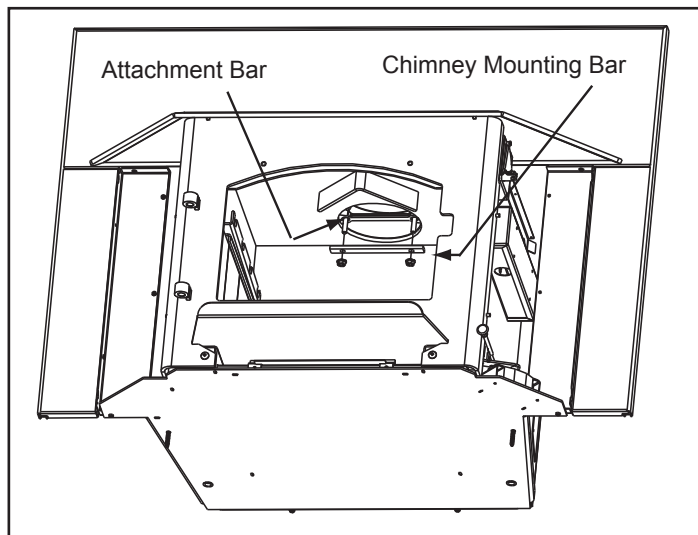

Figure 21.3
1. Once you have the appliance in place and secured, reach up through the flue opening and grab the attachment bar and pull down inside flue opening. **Figure 21.3**.